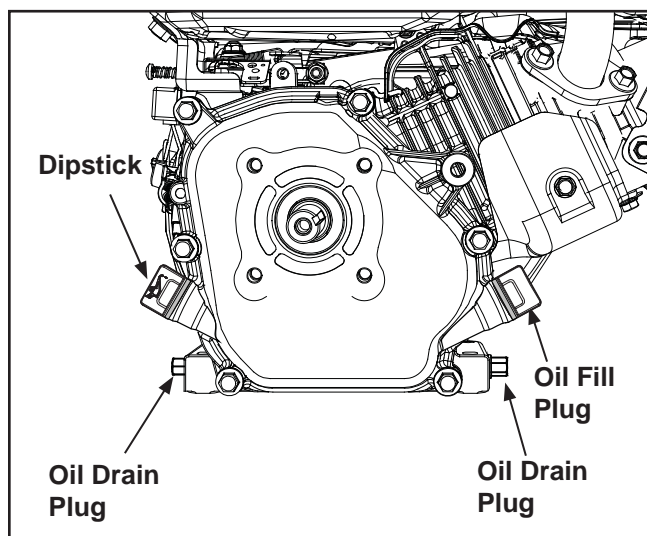

Figure 6-3. Location of Dipstick, Oil Fill Plug, and Oil Drain Plugs.
2. Clean the area around and beneath the dipstick or the oil fill plug before removing it. This will help keep dirt, debris, and other foreign matter out of the engine. See Figure 6-3.